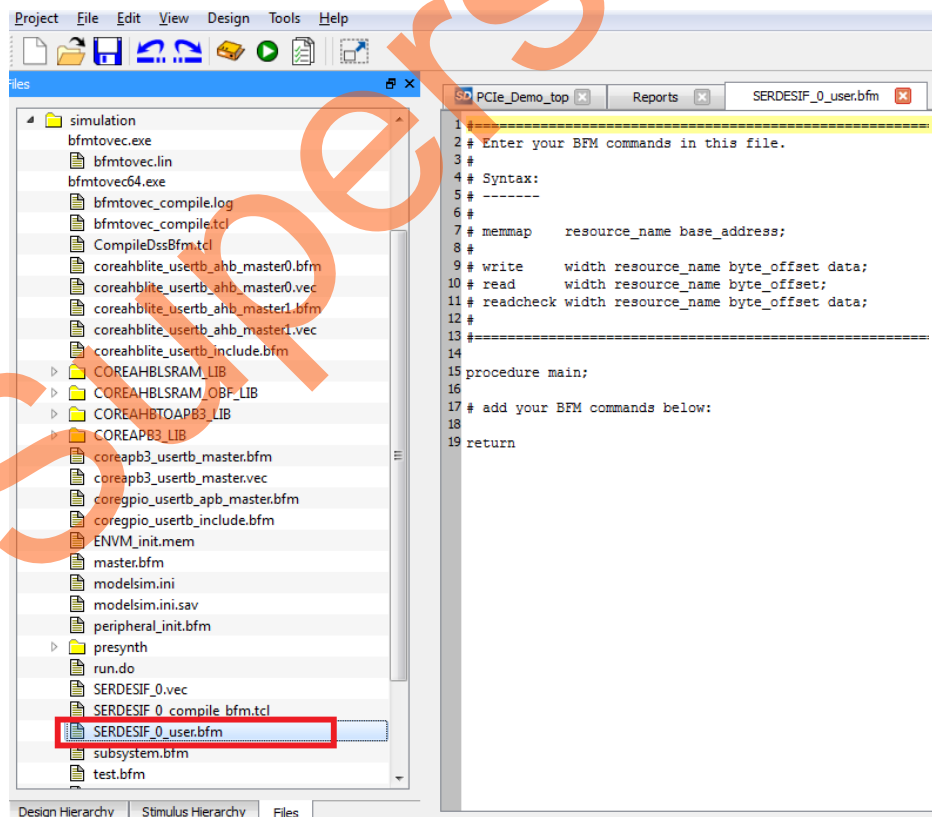

Figure 35 • SmartDesign Generated SERDESIF_0_user.bfm File
1. To open the SERDESIF_0_user.bfm, go to the **Files** tab > **Simulation** folder, and double-click the SERDESIF_0_user.bfm. The SERDESIF_0_user.bfm file is displayed as shown in Figure 35.